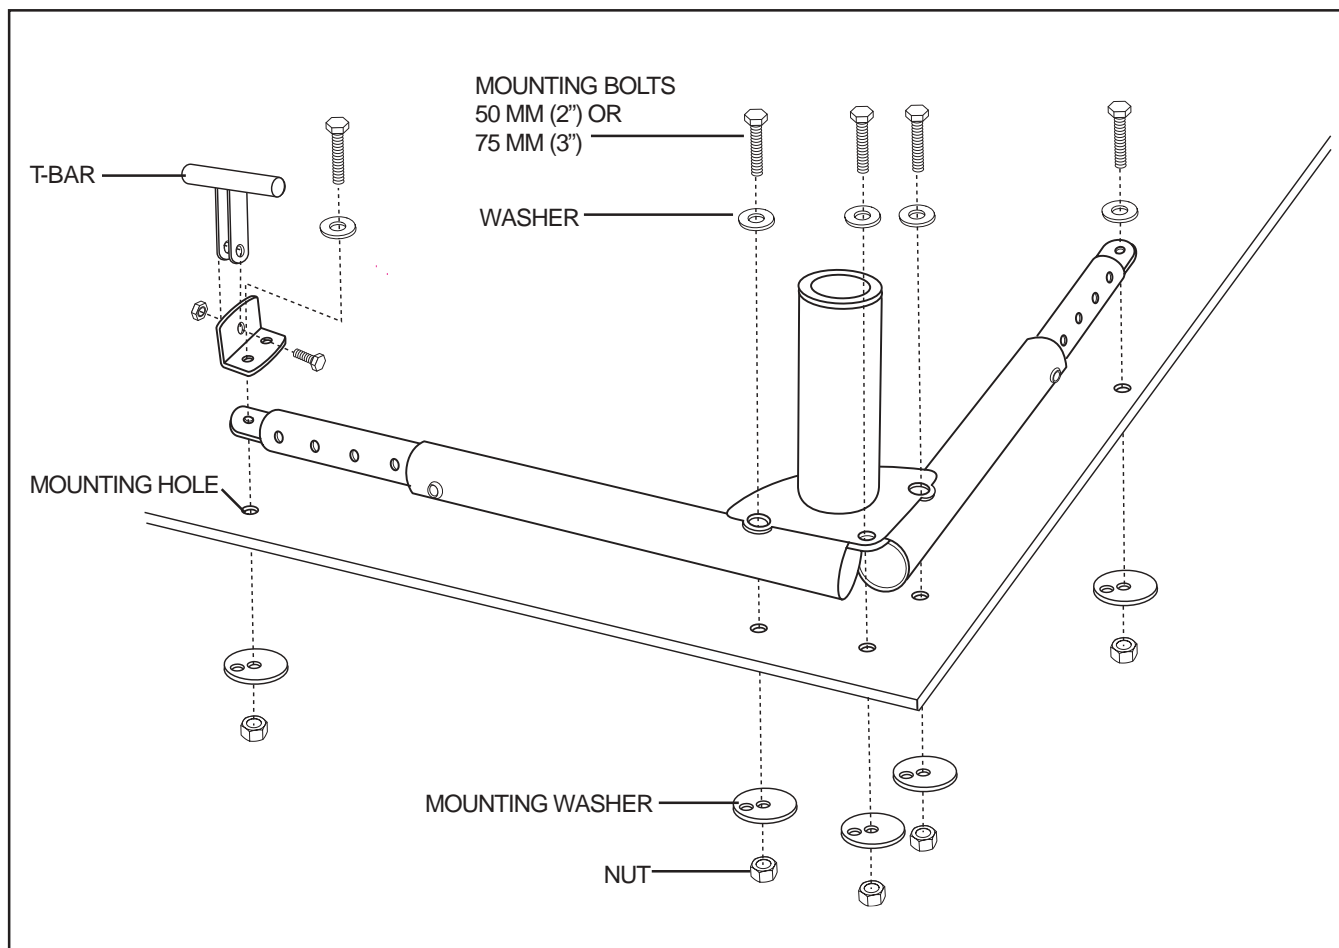

Figure 9. Securing The L-Base
2. If all is clear under the L-base, mark the position of the five (5) mounting holes and drill them using a 3/8-in. drill bit. Drill all mounting holes from inside the vehicle. **See figure 9.**
4. Position the T-bar on the end of the base support that runs parallel with the rear of the vehicle, and install a mounting bolt and washer through it and the L-base. **See figure 9.**
6. From under the vehicle, install the mounting washers and nuts to all five (5) mounting bolts and tighten. **See figure 9.**